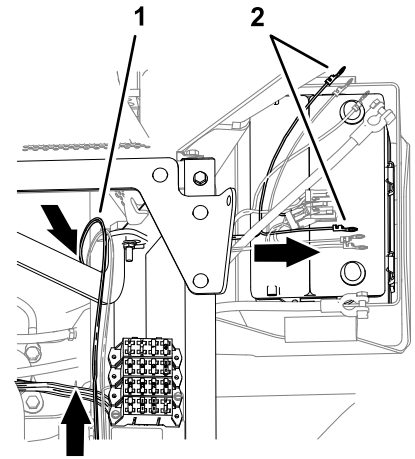

Figure 156
1. Route the ring terminals of the harness labeled BATTERY and GROUND rearward, and over the seat support (Figure 156).
2. Route the ring terminals under the left frame tube and across the top of the battery (Figure 156).